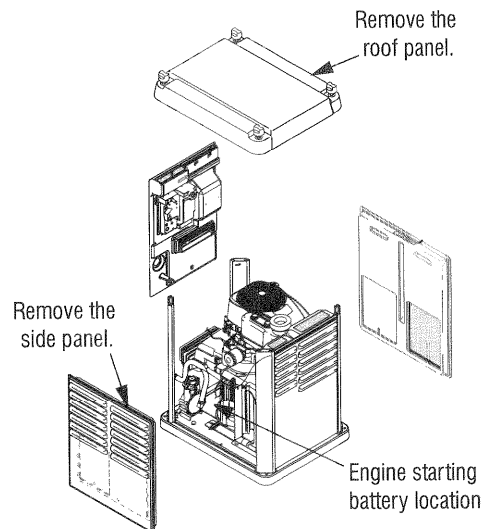

Figure 1
2. Remove the side panel. Remove the NEGATIVE (-) battery cable first and then the POSITIVE (+) battery cable from the engine starting battery. Remove the battery from the unit (Figure 1). Using a clean towel, wipe the bottom of the battery to remove any dirt, oil or contaminants.